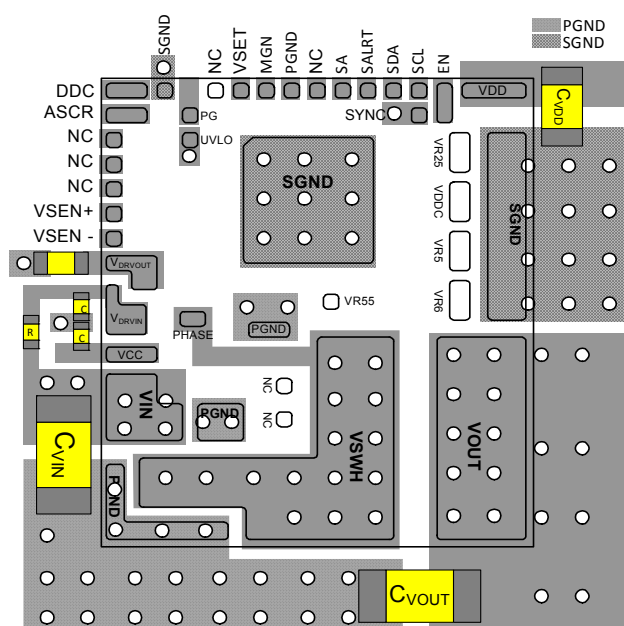

FIGURE 29. RECOMMENDED LAYOUT - TOP PCB LAYER
- For $V_{DD} > 6V$, the recommended PCB layout is shown in Figure 29. Leave V25, V_{DDC} , VR5, and VR6 as “No Connect (NC)”.